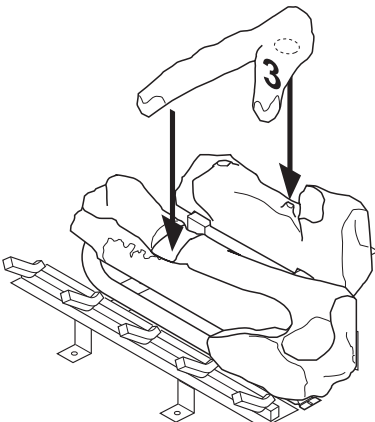

Figure 28 - Installing Log No. 3
4. Place log #3 (crossover log) onto rear and front logs. Make sure it is seated properly into notch on front log and over the raised triangular portion of rear log as shown in Figure 28, page 19.